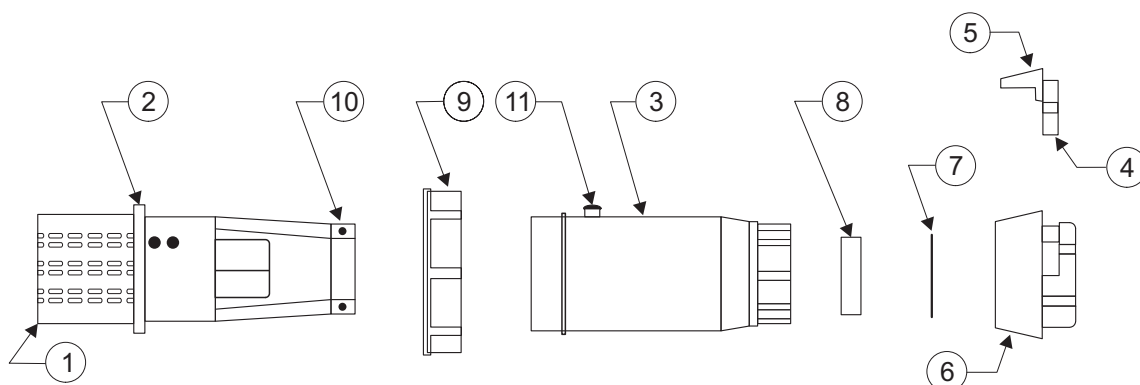

Figure 1.
Referring to Figure 1 above, loosen the three screws ① and pull the plug body ② out of the shell ③. Loosen the screw ④ on the locking clamp ⑤, insert the screwdriver in the locking clamp slot, lift the locking clamp out of the pressure ring ⑥ and unscrew the pressure ring.
- ▶ Slide the pressure ring ⑥ and the washer ⑦ over the cord.
- ▶ Install the cord grommet. The grommet ⑧ is an universal onion ring style which accommodates several cord diameters by removing (cutting out) the inner undersized diameters. The grommet should fit snugly on the cord. The grommet may require lubrication in order to slide over the cord. Use talcum powder or an equivalent material rated for use on electrical products. Slide the grommet over the cord with the cuts toward the shell ③.